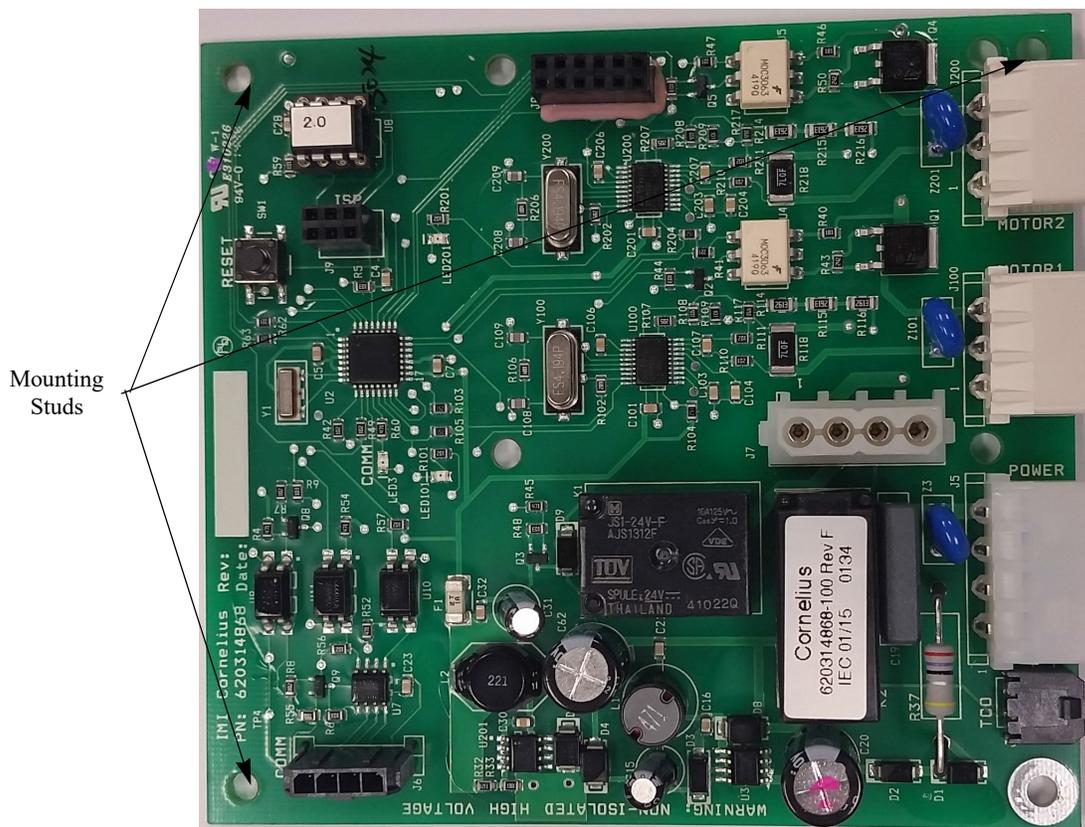

Figure 83. View of Motor Board in E-Box
The motor board is located in the E-Box, to the right of the control board. It is mounted to the panel on three (3) plastic mounting studs and a threaded standoff, shown in Figure 83.